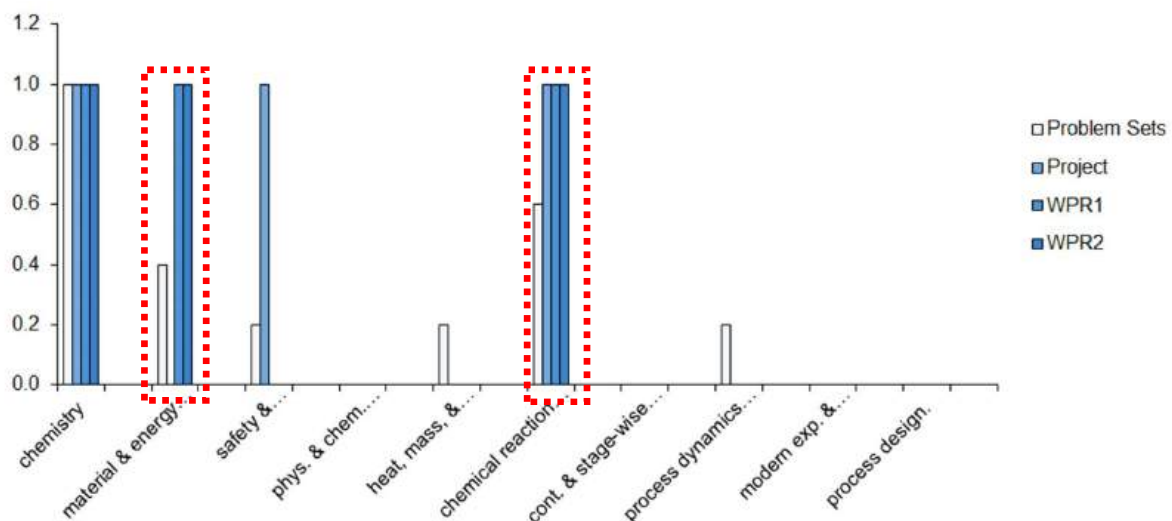

Figure 3. Student Curriculum Outcomes Coverage by Graded Event.
8.a. Coverage. Contribution to student objectives was assessed using the same method as described in Section II.3. Figure 3 shows coverage of student curriculum outcomes. The spreadsheet containing the data for this analysis is attached to the end of this report, in the section labeled "Section II - Attachment 2 – Assessment Worksheet." The items marked with **red dashed boxes** in Figures 3 designate student directives from Section I.8.